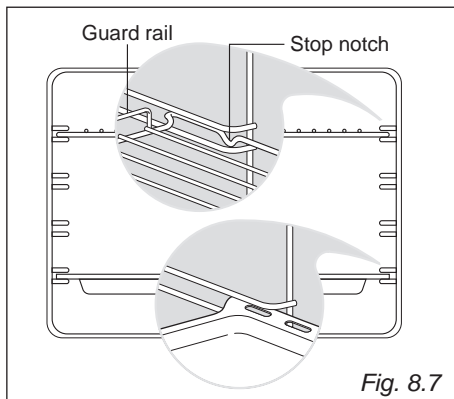

Fig. 8.7
- Slide into the guides, the shelf and the tray (fig. 8.7).
The oven tray "L" must be inserted into the side runners (fig. 8.7).